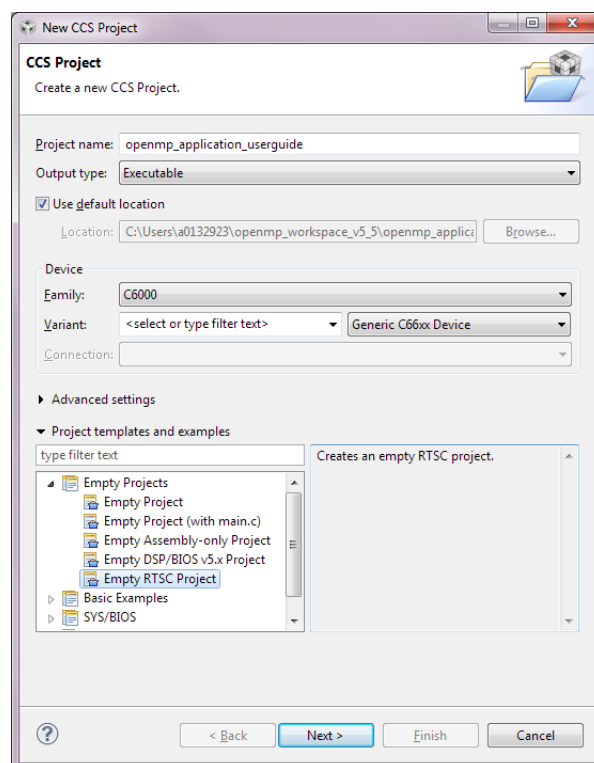

Figure 2: Creating a new RTSC project
- Create a new RTSC project (Empty RTSC project under Project templates and examples. Refer Figure 2)